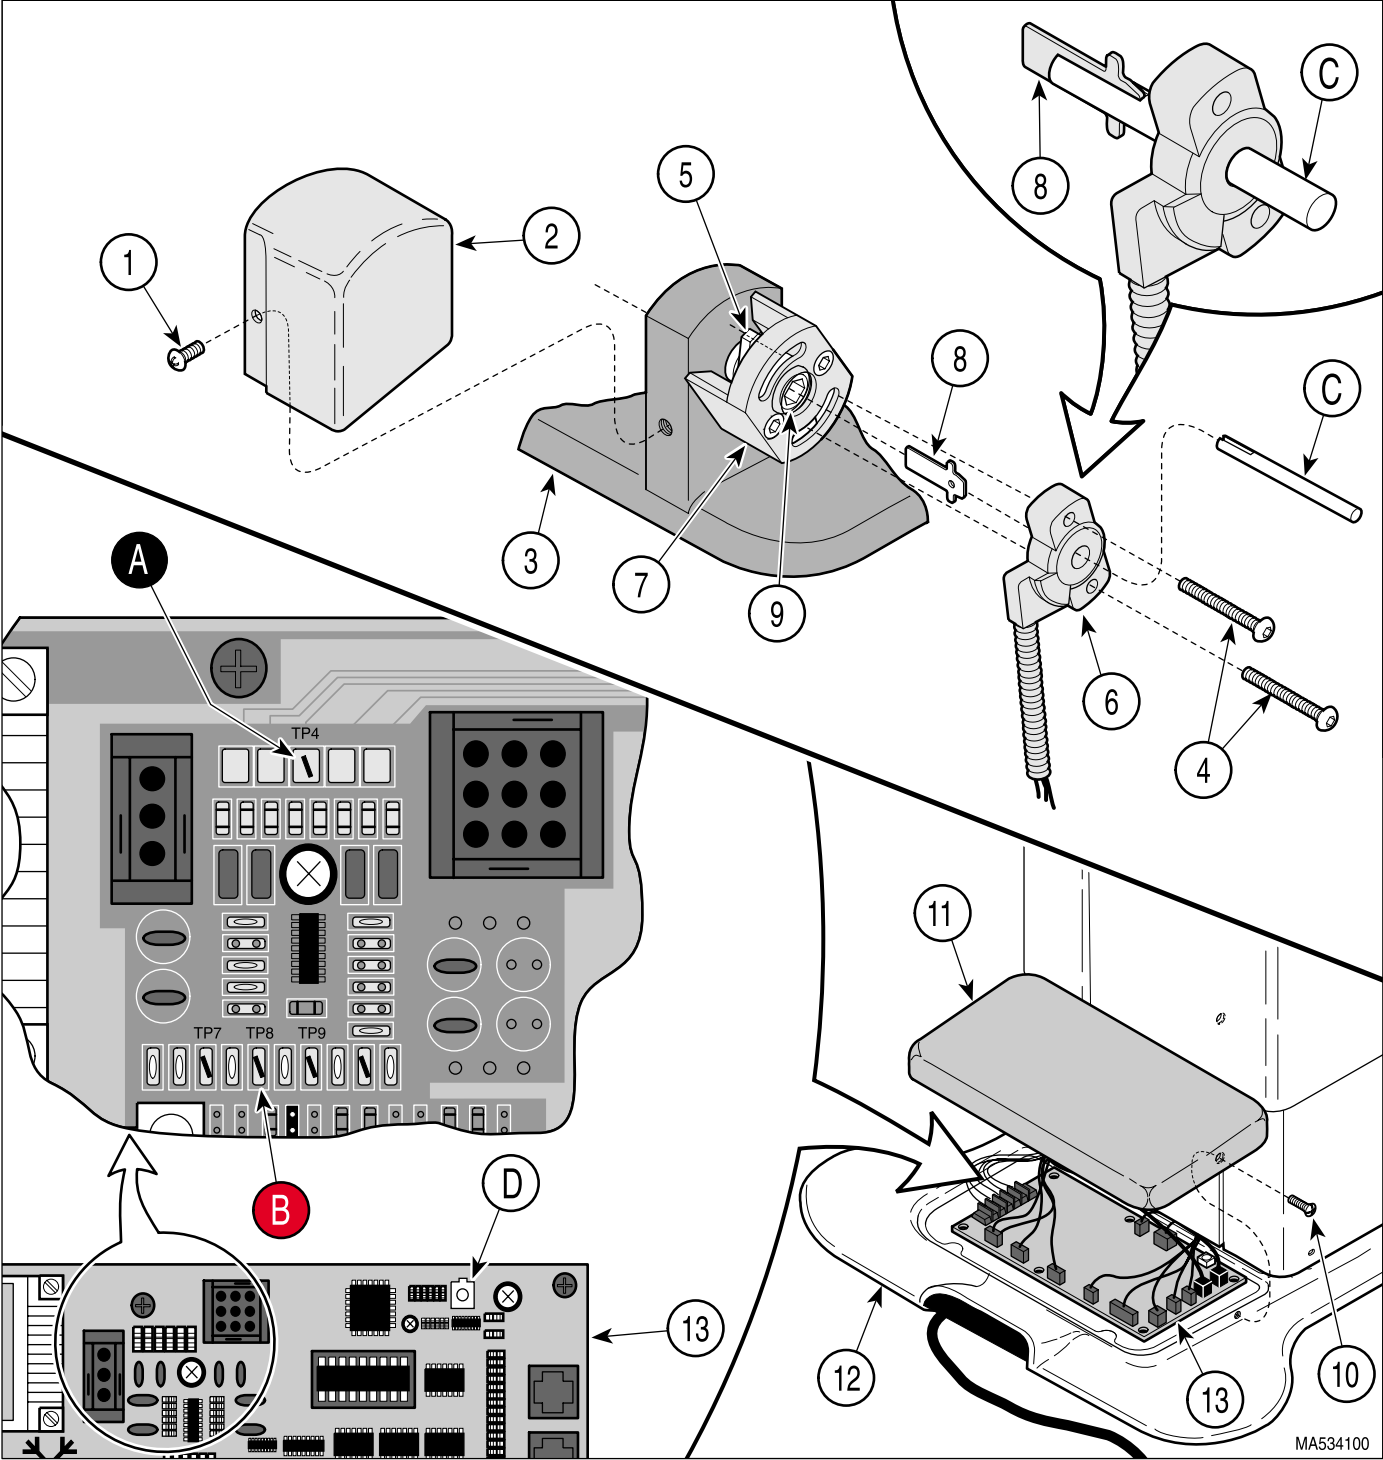

Figure 4-55. Tilt Position Sensor Removal / Installation / Adjustment
- (3) Lower middle outer shroud assembly (4) down out of way.
- (4) Remove two nuts (5) and sensor wire cover (6) from connection cover (7).
- (5) Cut any cable ties (8) securing tilt sensor harness (9) to other harnesses.
- (6) Disconnect tilt sensor harness (9) from harness (10).
- (7) Run TILT DOWN function all the way down.
- (8) Run BACK UP function all the way up.
- (9) Unplug table power cord from outlet receptacle.
- (10) Remove screw (1, Figure 4-55) and tilt sensor cover (2) from column adapter weldment (3).
- (11) Using a T15 torx wrench, remove two screws (4), backing plate (5), and tilt position sensor (6) from position sensor mount (7).
- (12) Remove 5/16" hex drive (8) from head of screw (9).
- (2) Connect negative (black) lead of multimeter to TP4 (A, Figure 4-55) and positive (red) lead of multimeter to TP8 (B) of PC control board (13).
(5) Connect tilt sensor harness (9) to harness (10).
(6) Secure tilt sensor harness (9) to other harnesses with cable tie (8).
(7) Install sensor wire cover (6) on connection cover (7) and secure with two nuts (5), making sure harnesses (9 and 10) are tucked into the sensor wire cover.
(8) Install tabs (B) of R.H. and L.H. outer shrouds (2) in slots (C) of column adapter weldment (3) and secure with four screws (1), making sure middle outer shroud assembly (4) is captured by R.H. and L.H. outer shrouds (2).
(9) Plug table power cord into outlet receptacle.
(10) Run TILT DOWN function all the way down.
(11) Slide sensor holder tool (C, Figure 4-55) thru the center hole of tilt position sensor (6).
(12) Insert 5/16" hex drive (8) into slot of sensor holder tool (C).
(13) Pull on holder sensor tool (C) until 5/16" hex drive (8) is engaged with tilt position sensor (6). Then, rotate sensor holder tool slightly to apply friction on 5/16" hex drive and prevent it from "popping" out as tilt position sensor is installed. The 5/16" hex drive is properly engaged when spring tension is felt as the sensor holder tool is rotated. Also, the multimeter should read approximately 0.04 to 0.08 VDC and the reading should change as the tool is rotated.